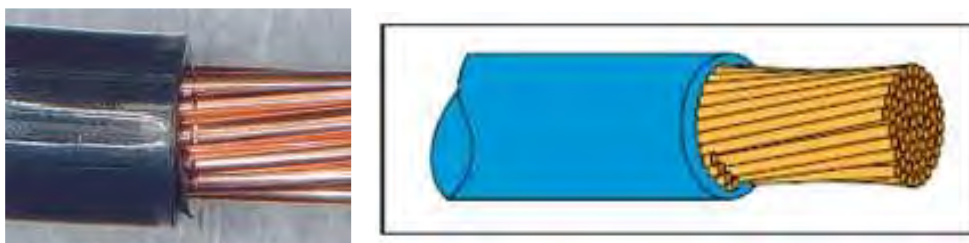

Figure 75
(2) Inspect wire strands as follows:
- Broken, nicked, or cut strands as listed below and shown in Figure 75.